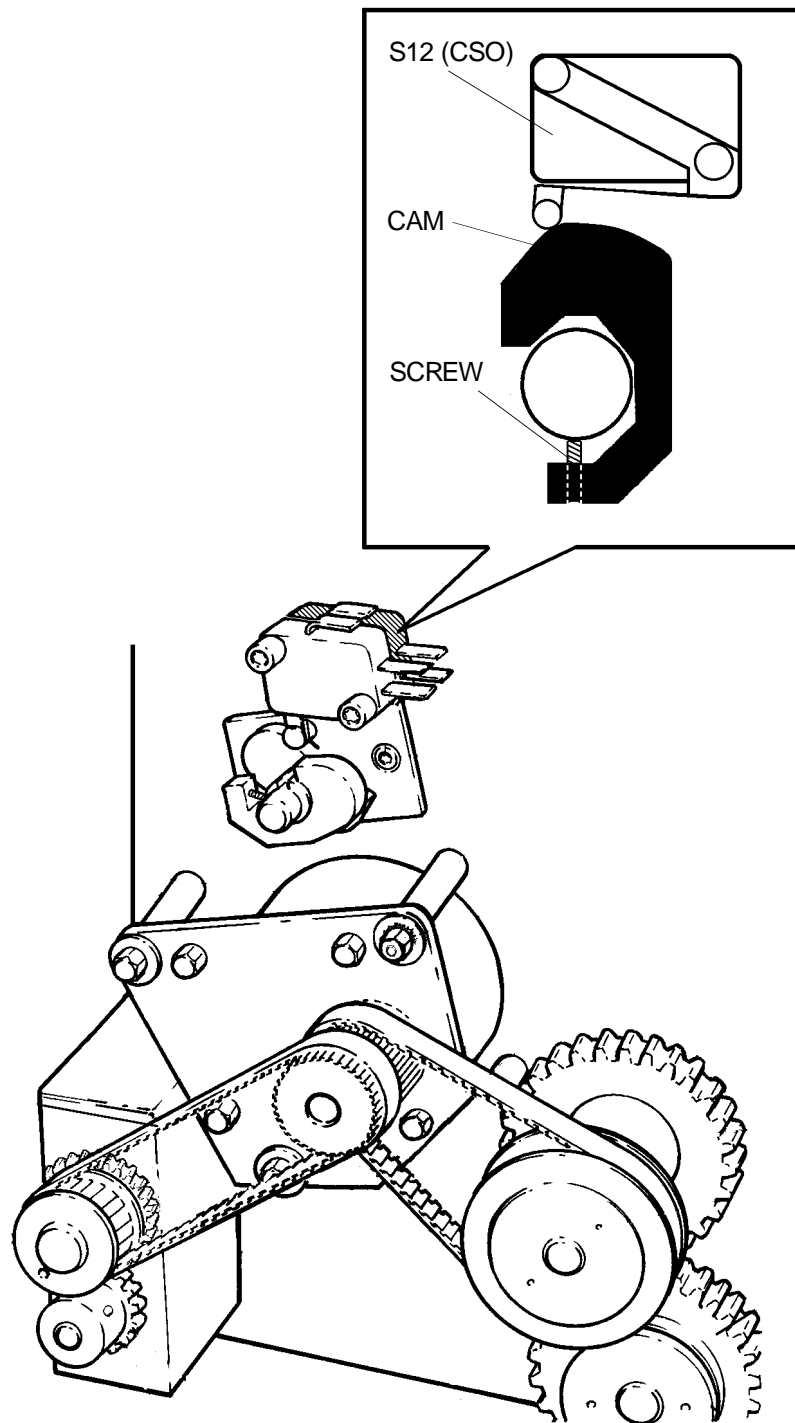

figure 30
9. If the BACK position of CASSETTE SUCKER BAR is not correct adjust SWITCH S12 (CSO). See figure 30.